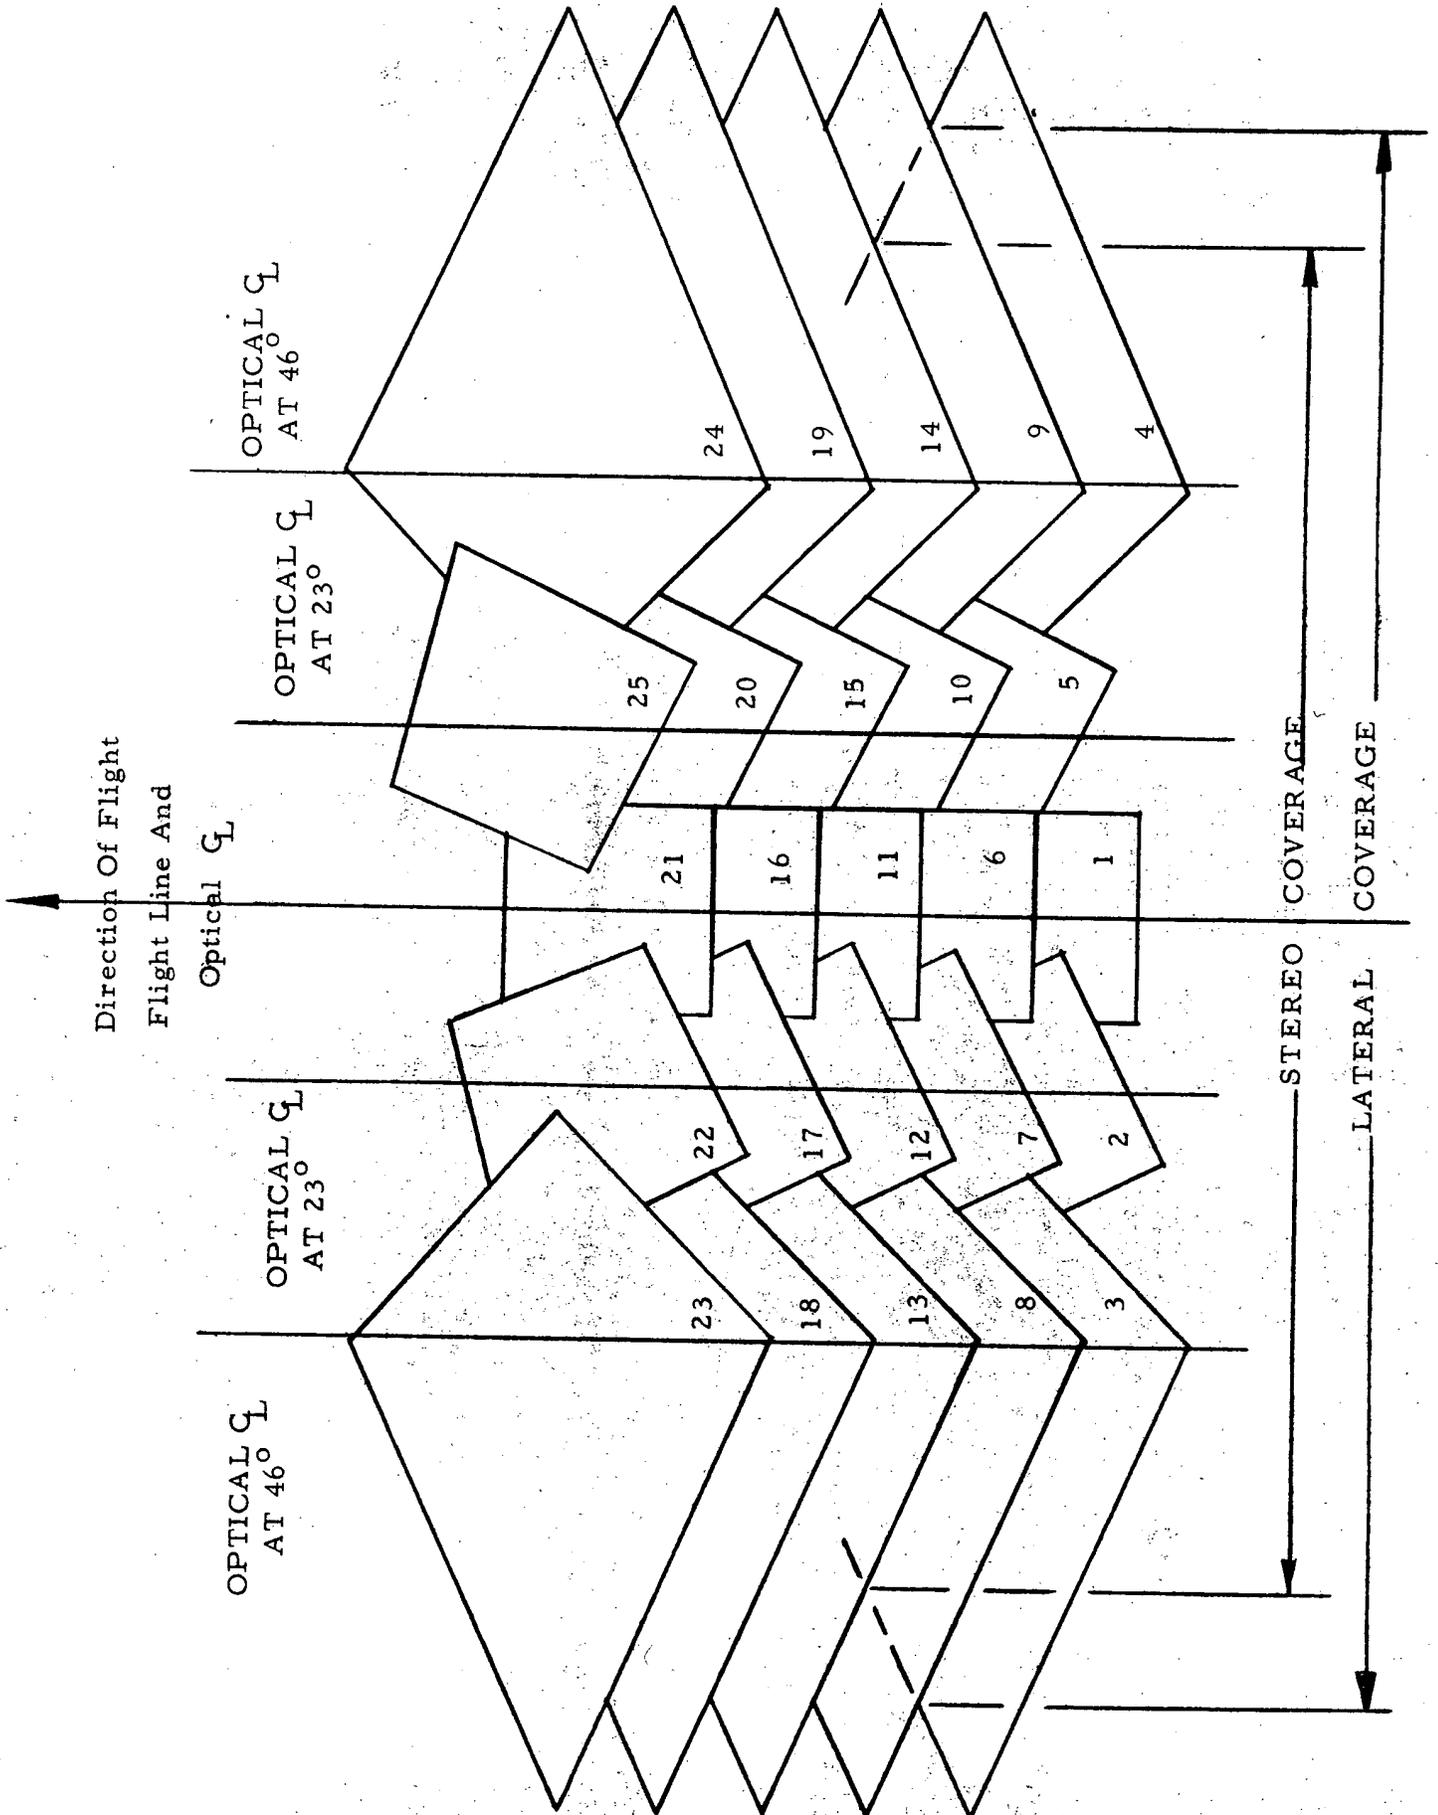

Figure 3-1. Ground Coverage Format, Straight and Level Flight, Type III
3-3. Photographic coverage of the camera system is represented in Figure 3-1. There are two distinct modes of operation with the Type III package. Mode 1 sweeps continuously through the five basic positions while mode 2 photographs continuously at the same rate, however, in a vertical position only. Mode 1 covers approximately 60° each side of nadir. Mode 2 covers 14° each side of nadir. Each mission can provide 2850 nautical miles flight line coverage on 3900 frames and 51 to 55 nautical miles (or approximately 120°) of total transverse coverage. The scan overlap provides stereo viewing approximately 53° each side of nadir or an approximate total of 106° . See Figure 3-1.
- 3-19. Results of the Type III camera are sets of photographs in the format shown in Figure 3-1. Each frame contains recorded data and identification of frame position, i. e., one through five. Approximately 3900 photographs with recorded data can be expected from a full film supply of 6000 feet. Individual frame size is 18 inches by 18 inches.